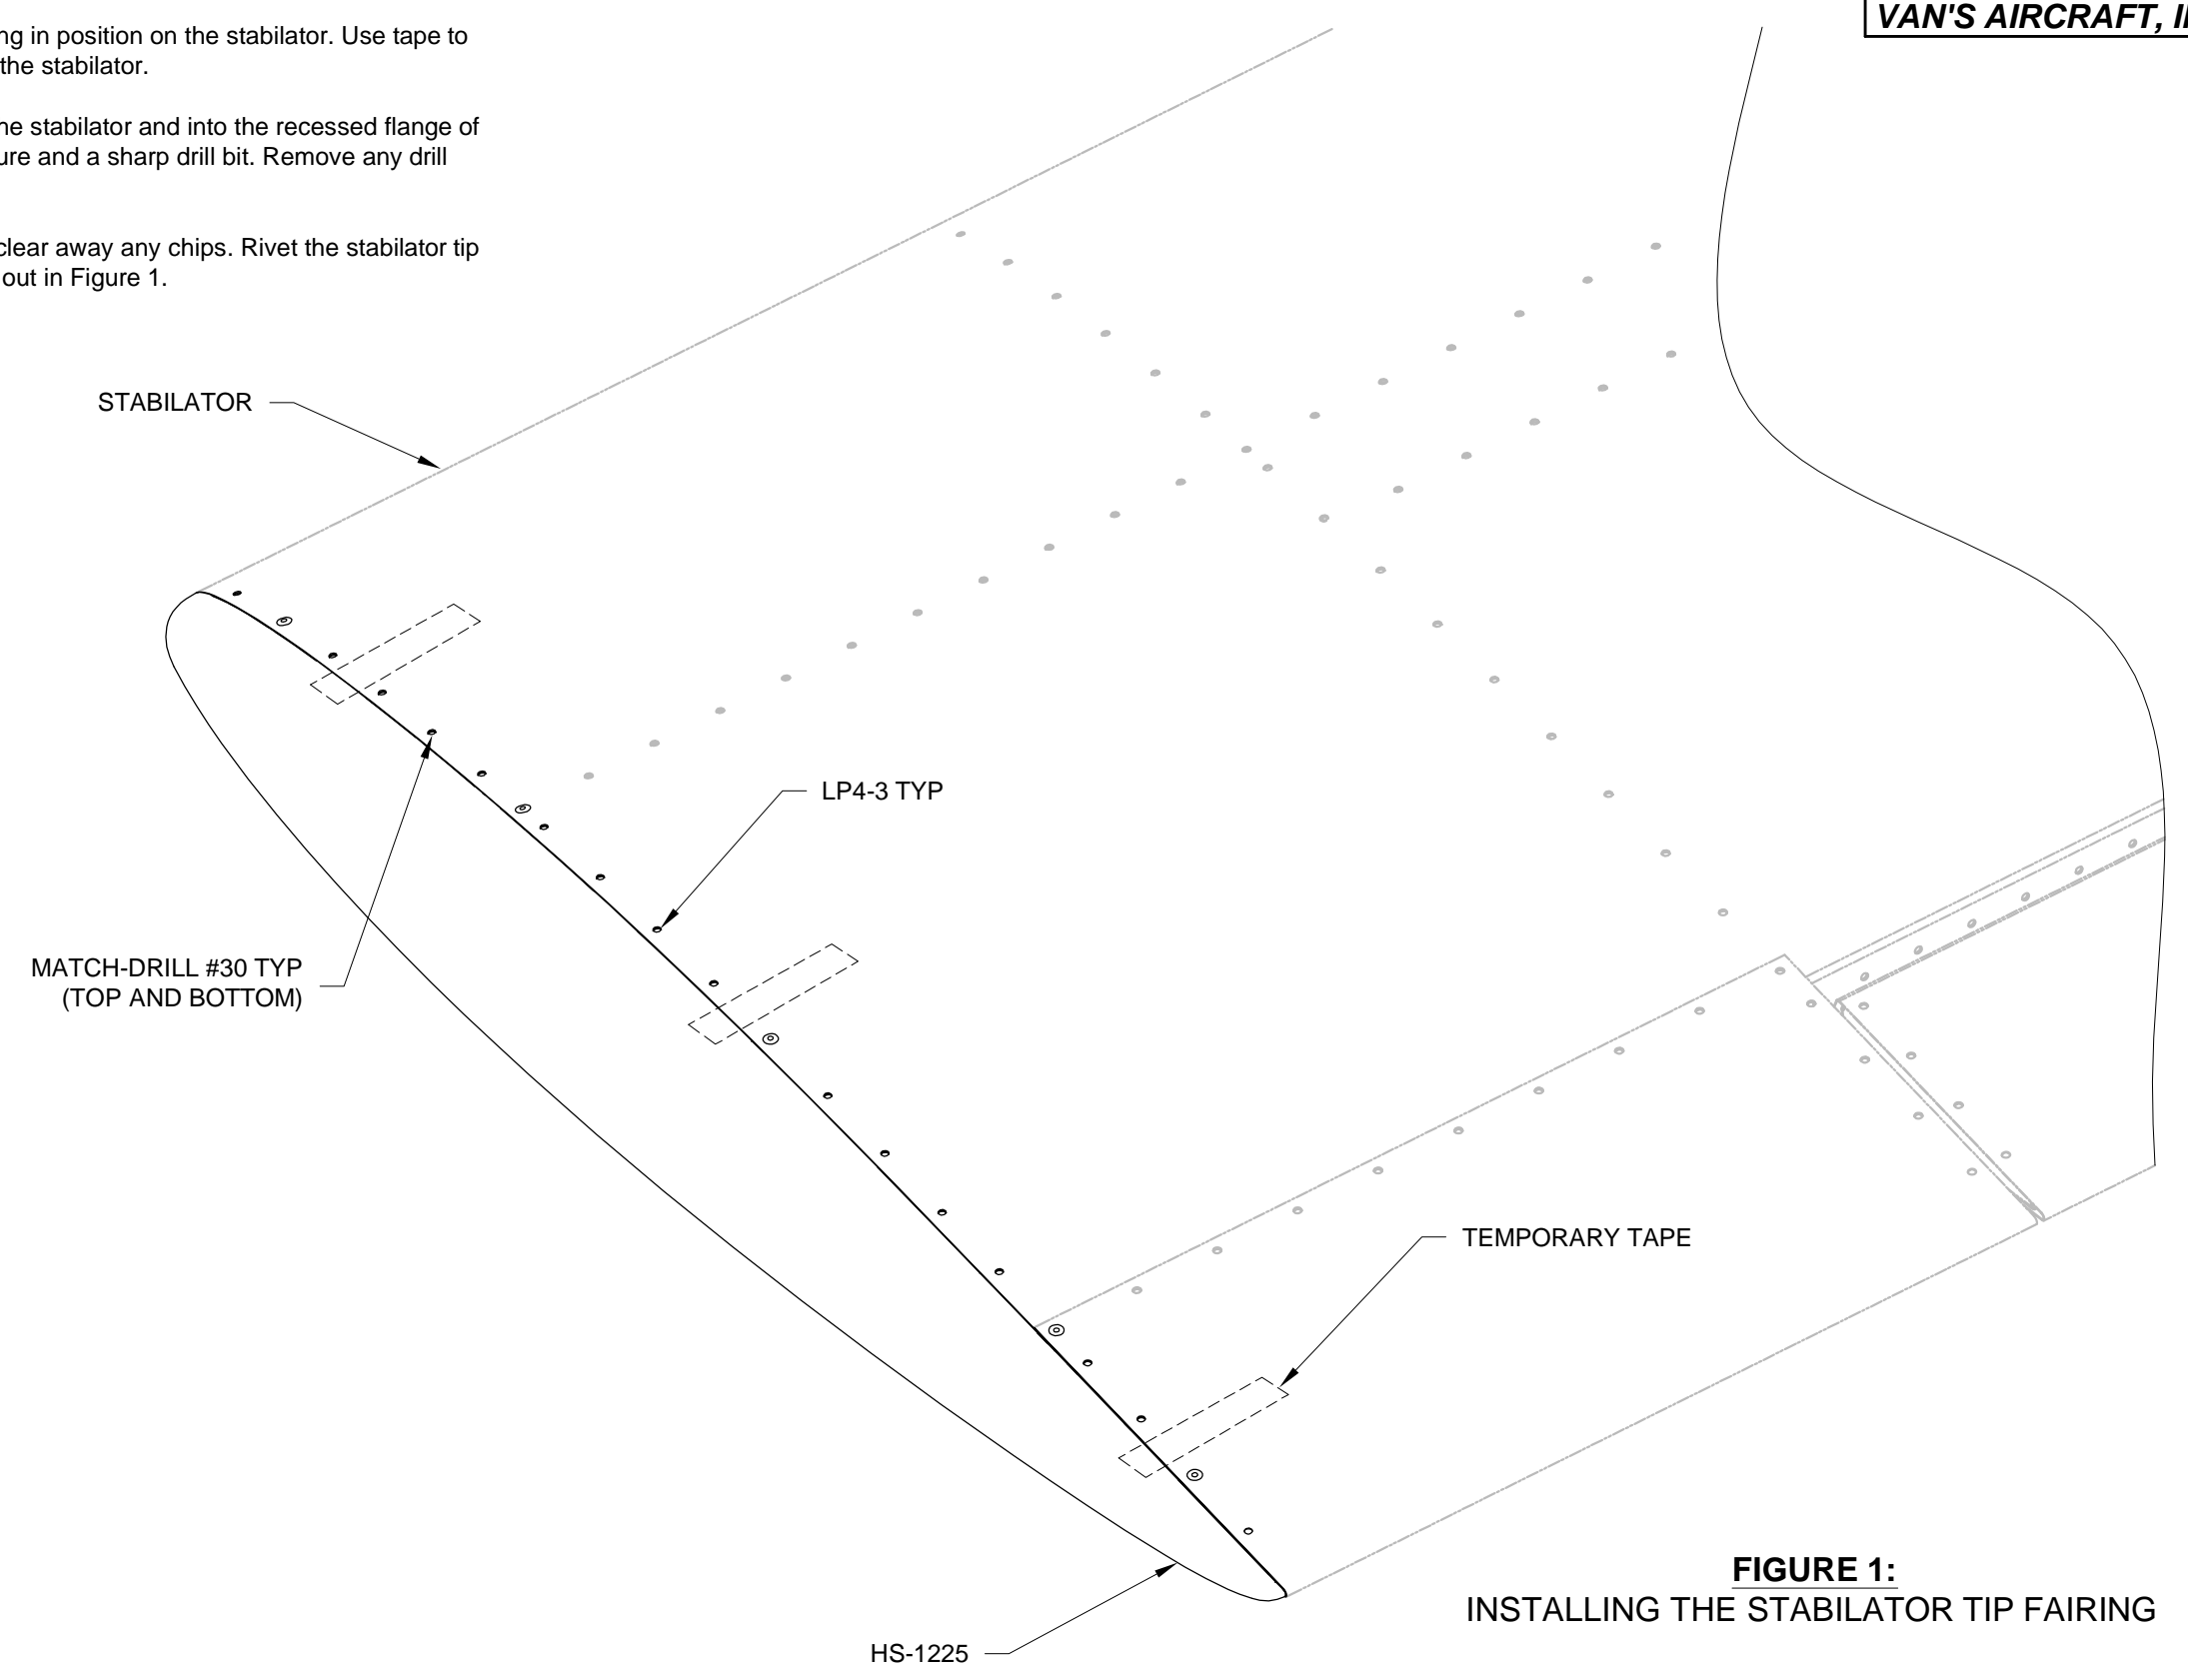

FIGURE 1:
Step 3: Remove the stabilator tip fairing and clear away any chips. Rivet the stabilator tip fairing to the stabilator using the rivets called out in Figure 1.